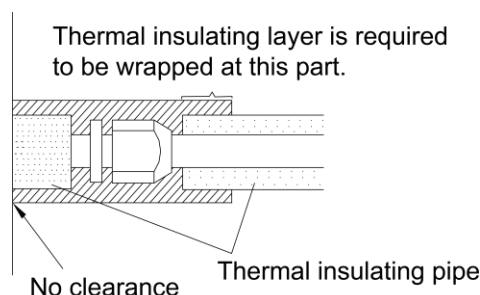

Fig.4.4.8
- 3) Joints at indoor and outdoor units should be wrapped with insulating material and leave no clearance between pipe and wall. See Fig.4.4.8.